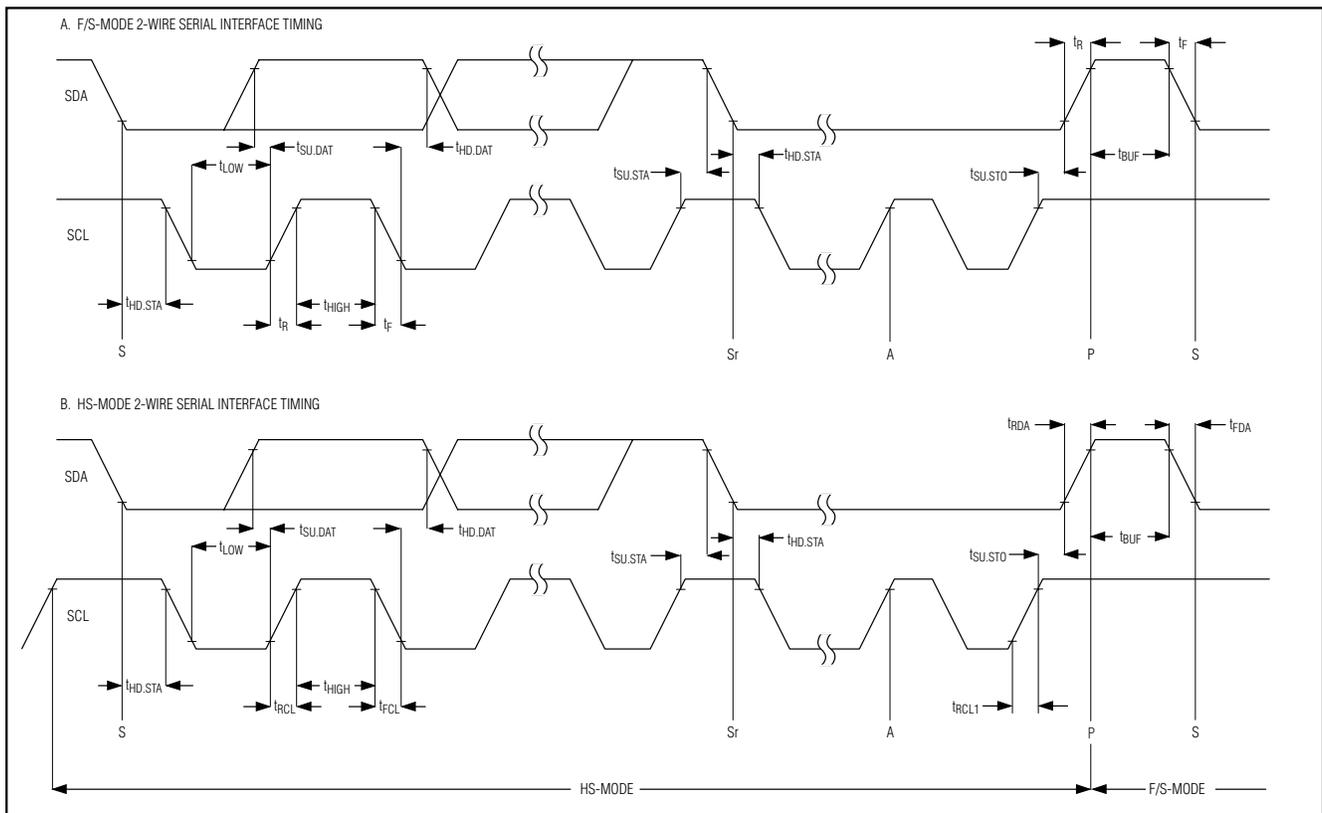

Figure 1. 2-Wire Serial Interface Timing
### TIMING CHARACTERISTICS (Figure 1)
### TIMING CHARACTERISTICS (Figure 1) (continued)
## TIMING CHARACTERISTICS (Figure 1) (continued)
**Note 10:** A master device must provide a data hold time for SDA (referred to  $V_{IL}$  of SCL) in order to bridge the undefined region of SCL's falling edge (see Figure 1).